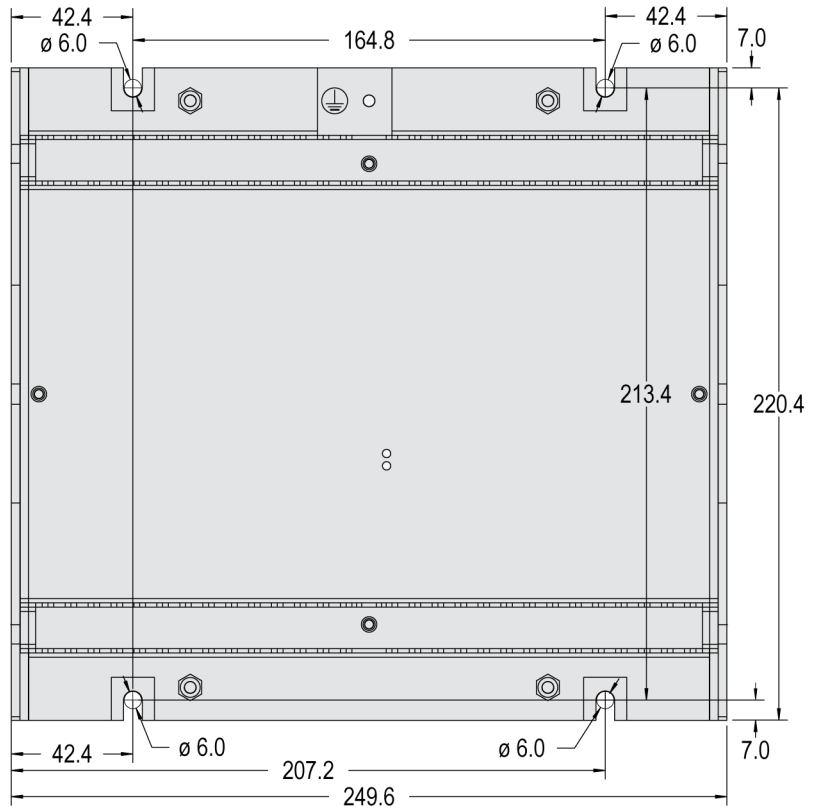

Fig. 8: Sheet metal housing - drill plan
1. ▶ Drill the holes according to the dimensions in Fig. 8 (dimensions shown in mm).